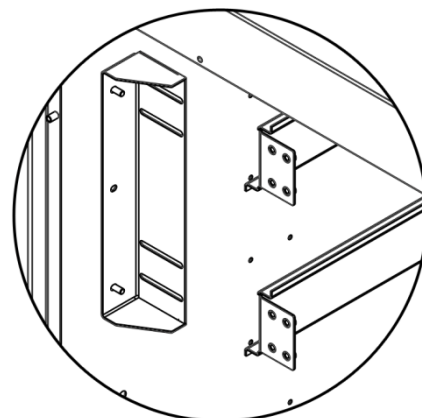

Figure 7
- To Lower: Loosen the fittings, rotate the bracket, lower and fasten to increase the distance between the display and the window (Figure 7).